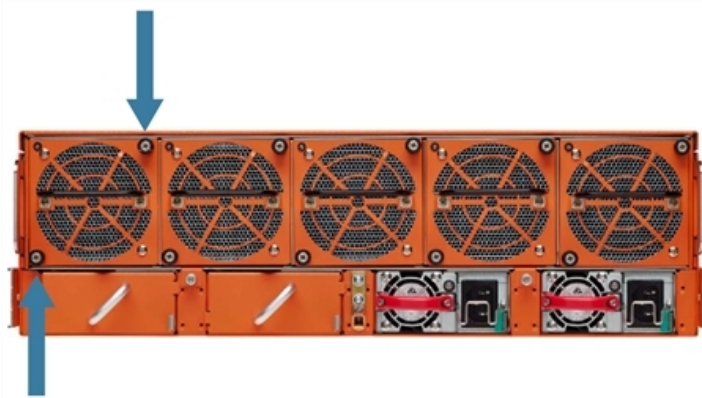

Figure 7 Fan Module Screw Location on GigaVUE-HC3 Rear
1. Locate the two thumb screws on the fan module as shown in Figure 7 Fan Module Screw Location on GigaVUE-HC3 Rear.
5. Tighten the thumb screws on each fan module, then use a Phillips screwdriver to tighten the screws. Refer to Figure 7 Fan Module Screw Location on GigaVUE-HC3 Rear.